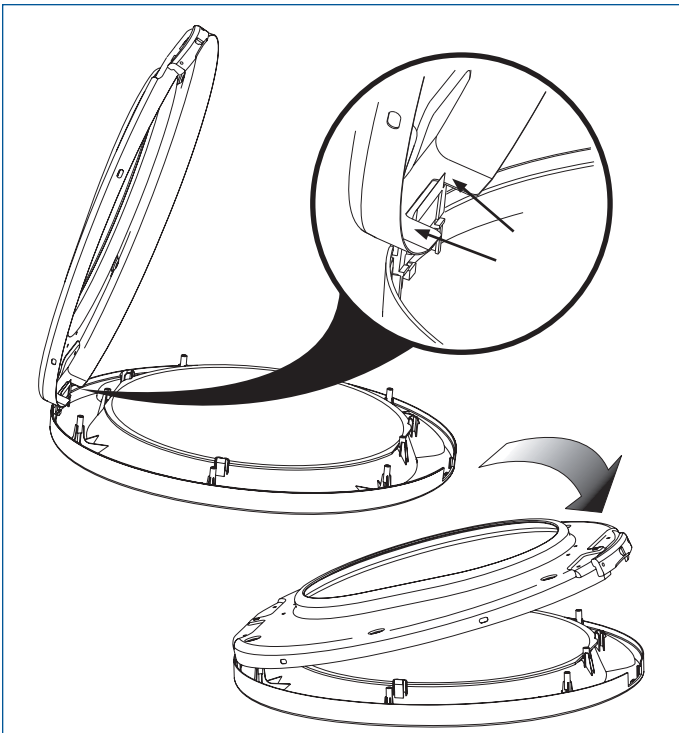

Figure 2-27.
2. Rest the opening of the inner door at a 90 degree angle on the "shoulders" of the hinge cutout gate. Pivot the inner door down onto the outer door. (See Figure 2-27)